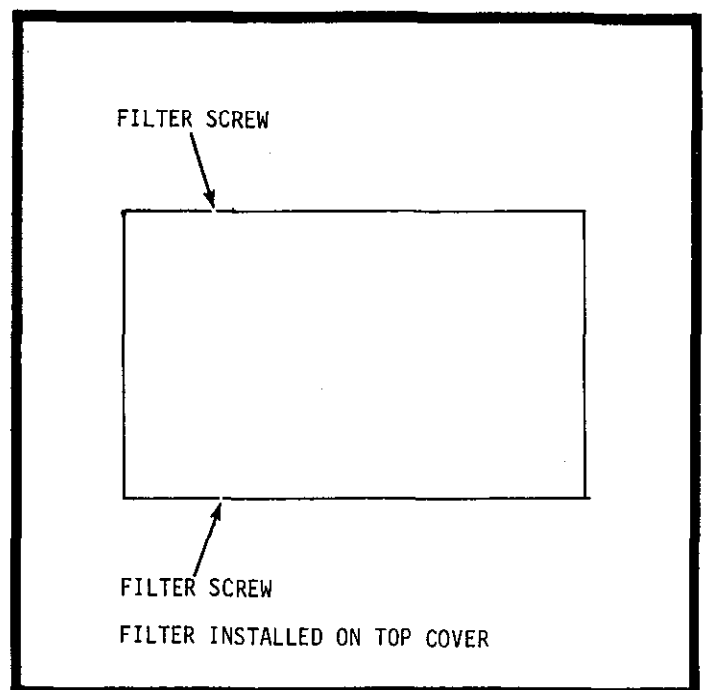

FIGURE 4. Location of Air Filter.
**3. Filter Replacement.** The air filter in the Model 227 is located as shown in Figure 4. The filter should be cleaned or replaced at least once per month under laboratory conditions, or more often when used in industrial environments. The filter can be checked and replaced by removing the top cover. Replace with Keithley Part No. 25791.